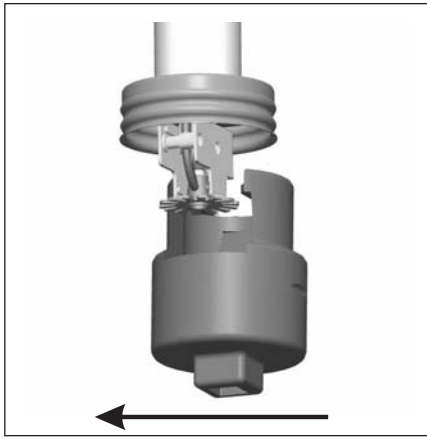
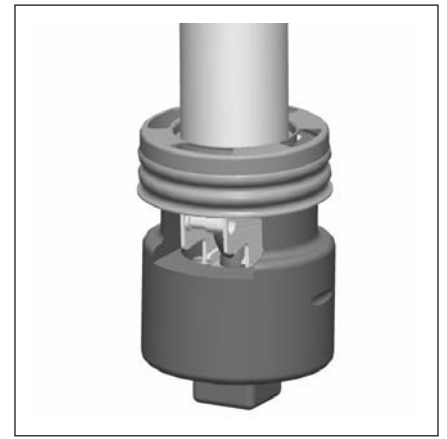

Fig. 1 - G3 R/C Wrench
Fig. 3 - G3 R/C Wrench
- The Model G3 R/C wrench (Fig. 1) is designed to locate on the wrenching pads of the recessed sprinkler while centering in the cup. A standard 1/2" drive ratchet can be used to drive this wrench. Figures 1 and 2 show sequentially the insertion of the wrench. First the wrench, with its jaws above the sprinkler deflector, is moved laterally until centered with the cup. Then raise the wrench inside of the cup until its jaws engage the sprinkler's square wrenching pads (Fig. 3). To remove the wrench, follow this procedure in reverse order. Care should be taken to avoid striking the deflector, with the wrench.